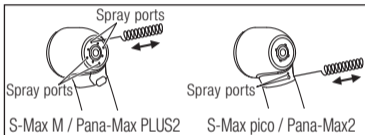

Fig. 32
- 1 When spray ports are clogged, or spray does not exit evenly from the ports, clean the ports (Fig. 32).